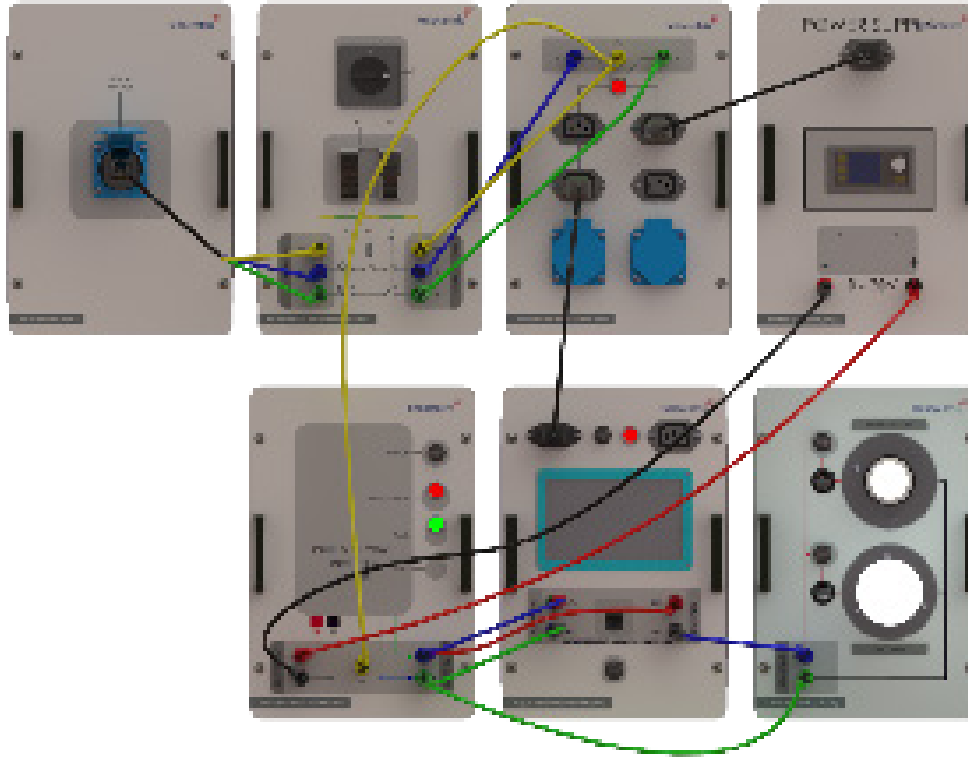

Figure-1
2) Connect as shown in figure-1. Set the switched on Lamp Module to 0. (No-load)